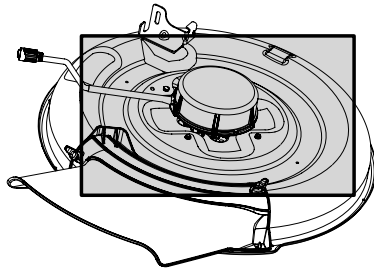

Figure 15
- Clean the top of the riding mower deck. See Figure 15.